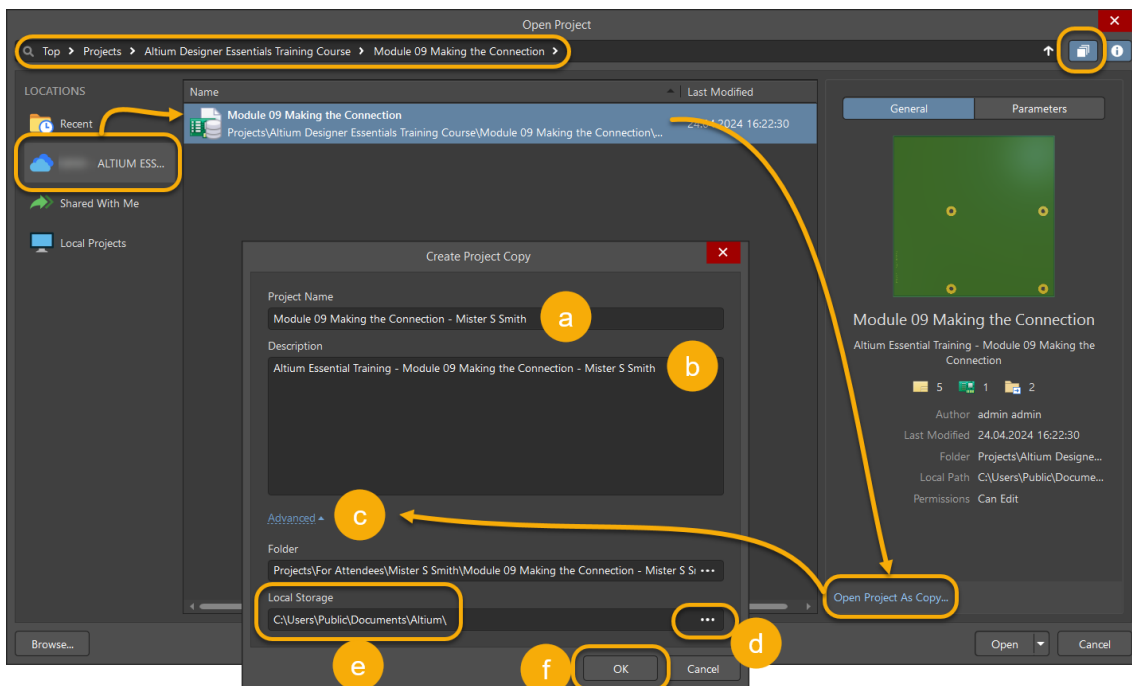
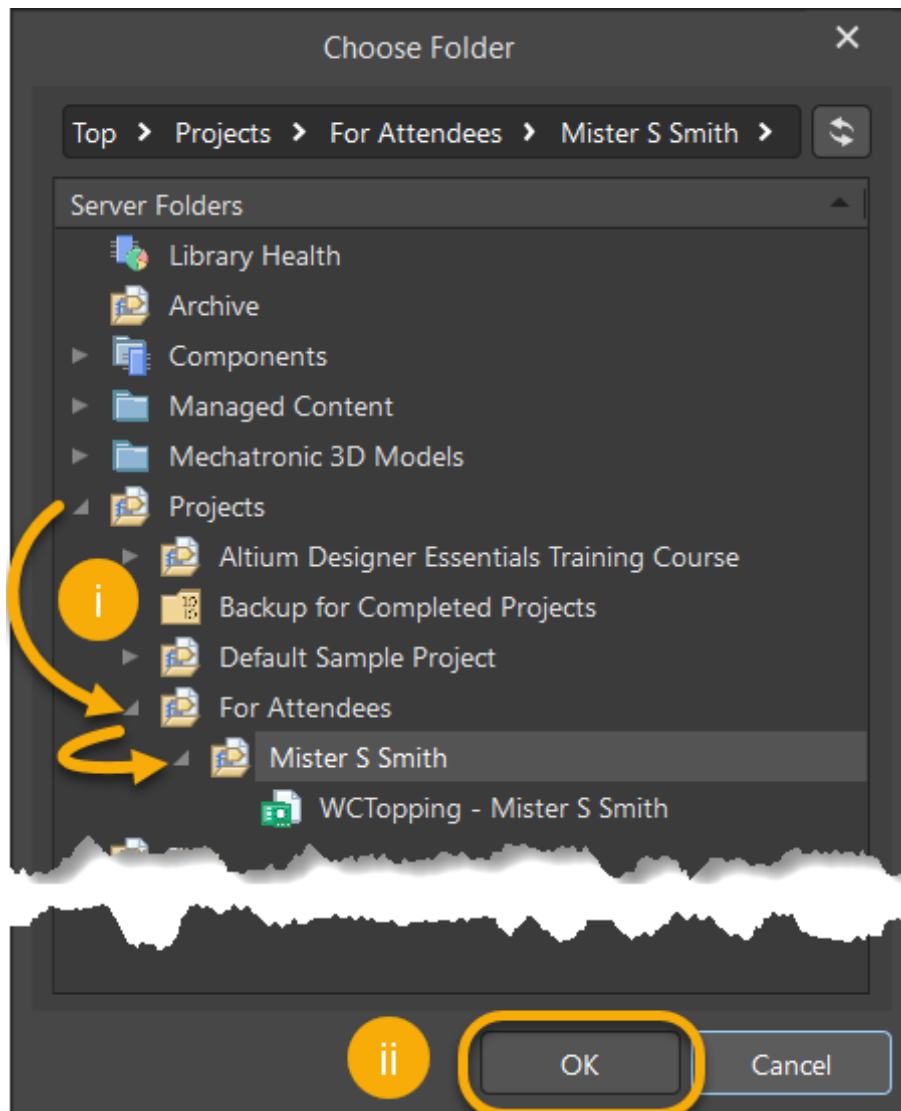

Figure 1. Copy existing Training Project
Figure 2. Step d - Choose Folder dialog
3. Select **File » Open Project...** to open the *Open Project* dialog, Figure 1.
7. At the new dialog *Create Project Copy*, as seen at Figure 1.
- d) Select the Ellipsis Button , as shown in Figure 1, to open the *Choose Folder* dialog; as shown in Figure 2.